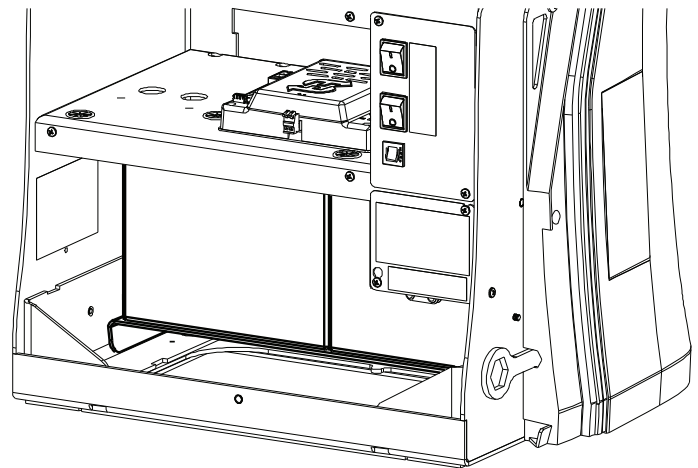

Figure 44. Installed Extended Batteries
7. Place the 35Ah batteries on the tray. (Figure 44)